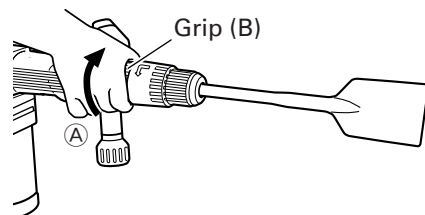

Fig. 5
- (2) As shown in Fig. 5, if grip (B) is turned 60 degrees in the direction of Ⓐ, the holding part of the tool automatically turns 30 degrees. If this action is repeated, the blade angle of the tool can be changed by every 30 degrees.
- (3) Release grip (B) and turn the tool, and make sure that it is locked completely.